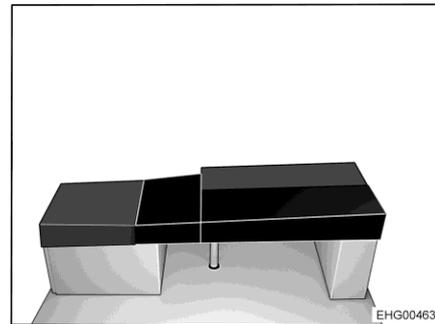

Fig. 181 After conversion
- Place rectangular additional cushion on the table (see Fig. 181).
- Place angled additional cushion on the L-shaped bed widening (see Fig. 181).